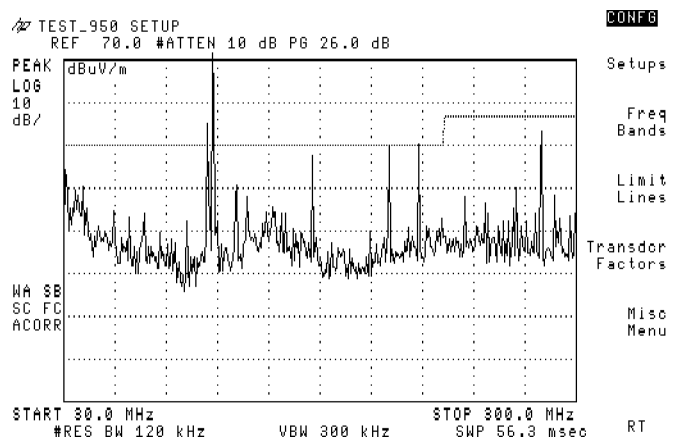

Figure 3-40. CSPA R 3 Loaded into the Analyzer
5. Press **Load Setup**, which loads the proper frequency range, bandwidths, limit lines, transducer factors, preamp gain, and attenuation into the spectrum analyzer. See Figure 3-40.